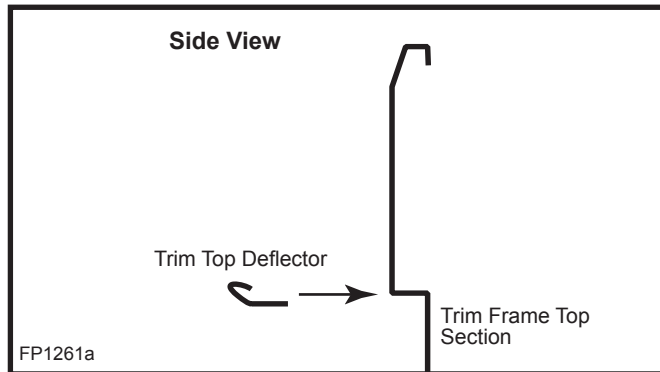

Fig. 44 Trim top deflector.
1. Install trim channels (left and right sides). Use two (2) screws to assemble each piece.
3. Install the trim top deflector. Use two (2) screws to fasten it. (Fig. 44)